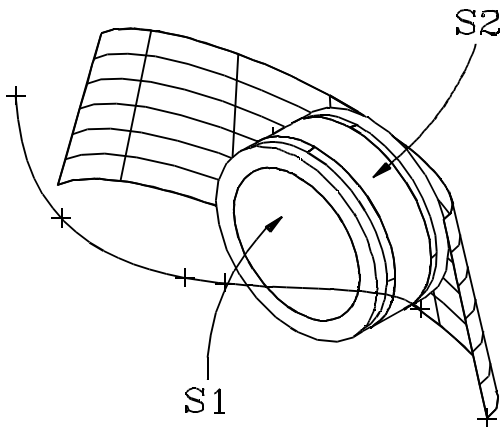

Figure 24:
54. Click on S1 and S2 to unselect the inner cylinder and the inner plane respectively, as shown in Figure 24.